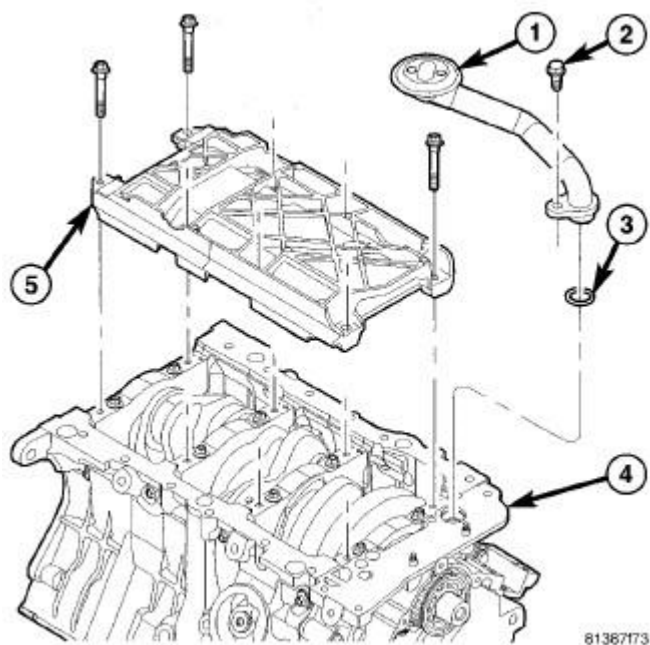

Fig. 429: Oil Pick Up Tube, Bolt, Seal, Oil Pump & Windage Tray
5. Remove the oil pickup tube. Refer to **Fig. 429**.